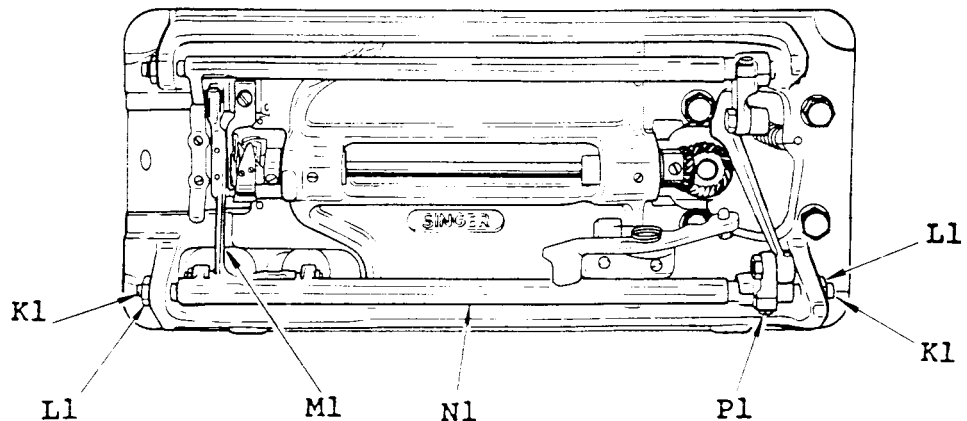

Fig. 14
1. Feed dog can be moved toward left or right, as required, after loosening two nuts L1 on screw centers K1, Fig. 14.
2. To move feed dog toward left, loosen screw center K1 at left end of feed rock shaft N1, Fig. 14, as required, and tighten the other screw center an equal amount.
3. Loosen clamping screw P1, Fig. 14 and move feed bar M1 and feed rock shaft N1, as required.